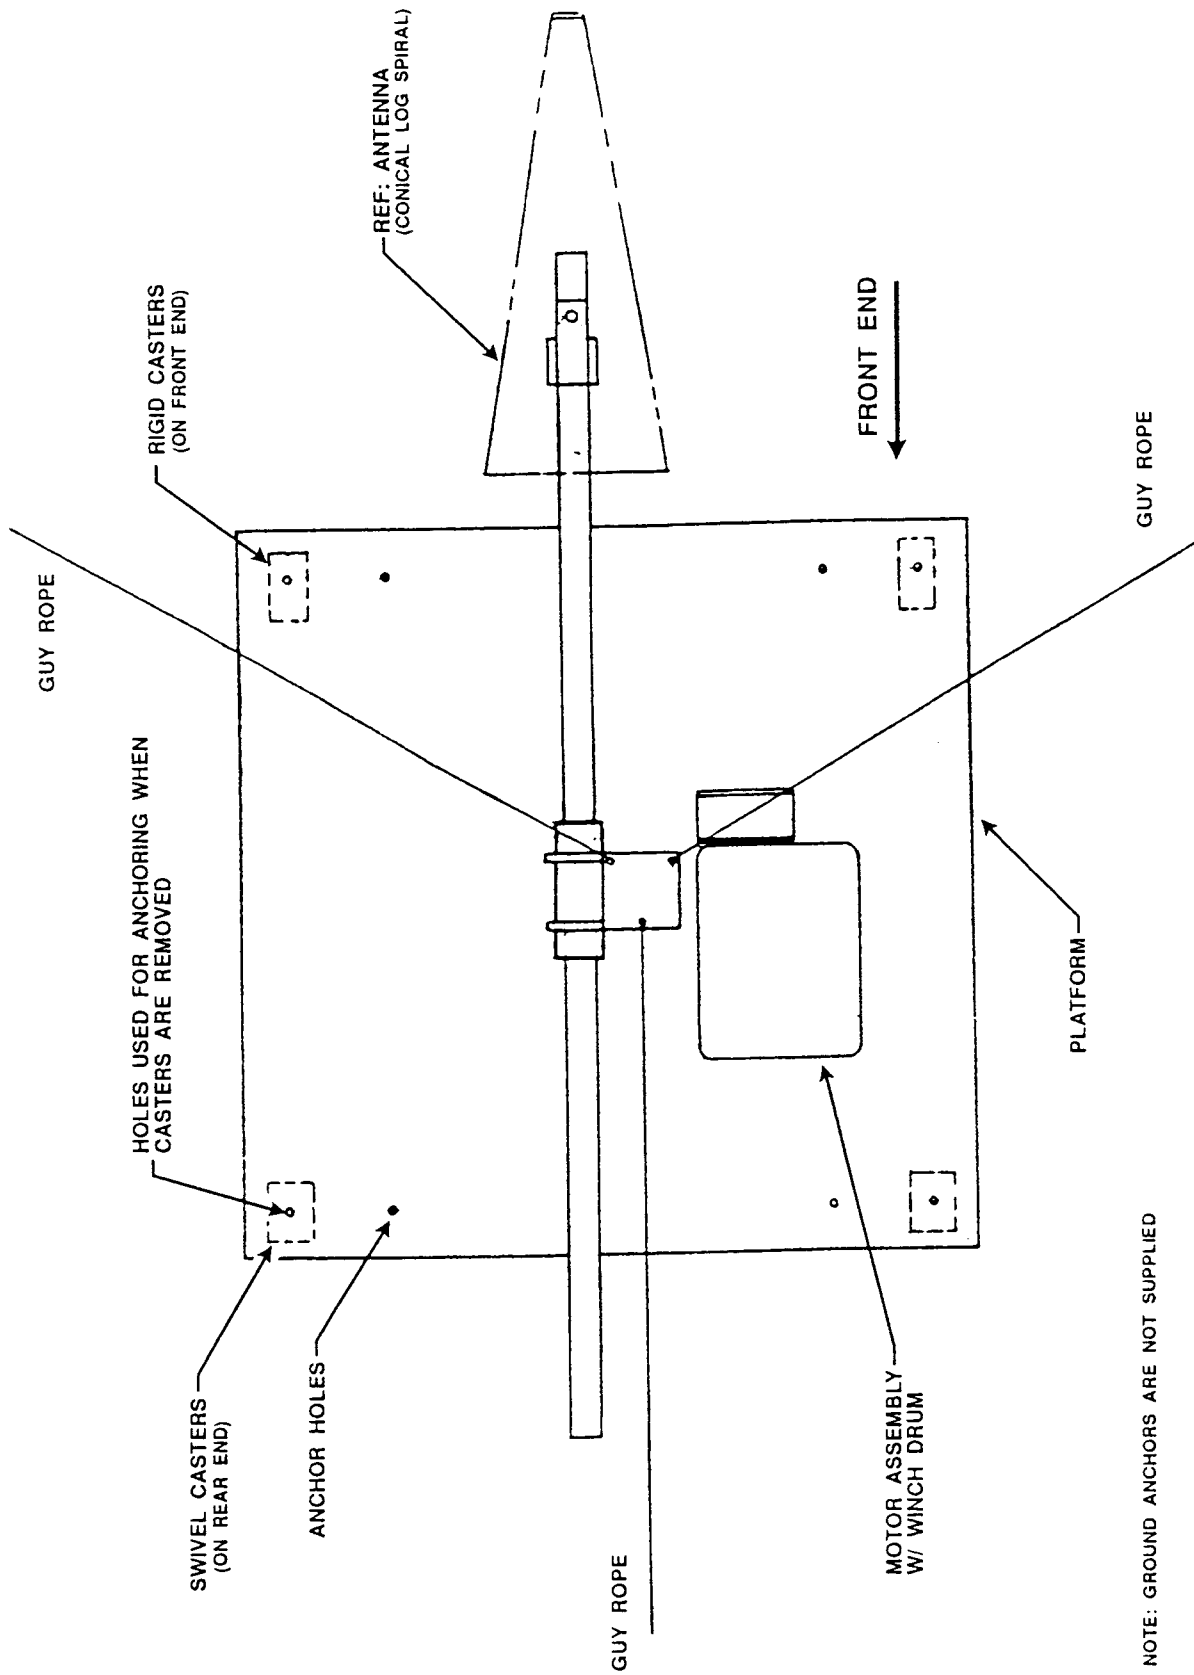

FIGURE 3. TOP VIEW - ANTENNA POSITIONING TOWER
8. Attach the guy ropes to the mast using the ropes provided to insure safe operation (Follow the guying diagram shown in Figure 3).